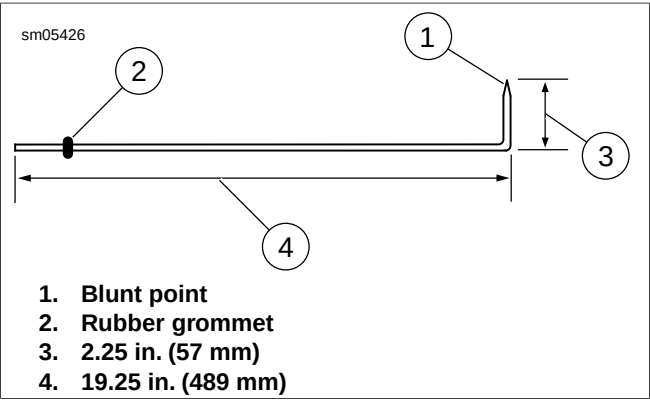

Figure 1-60. Wheel Alignment Tool: XL Models
- 2. **For XL Models:** See Figure 1-60. Fabricate an alignment tool using a piece of 1/8-in. (3.175 mm) diameter aluminum welding rod 21.5 in. (546 mm) long. Grind one end down to a blunt point. Use pliers to bend rod at a 90 degree angle, 2.25 in. (57 mm) from the blunt point, as shown. Place a snug-fitting rubber grommet (2) on rod to act as a slide measurement indicator.